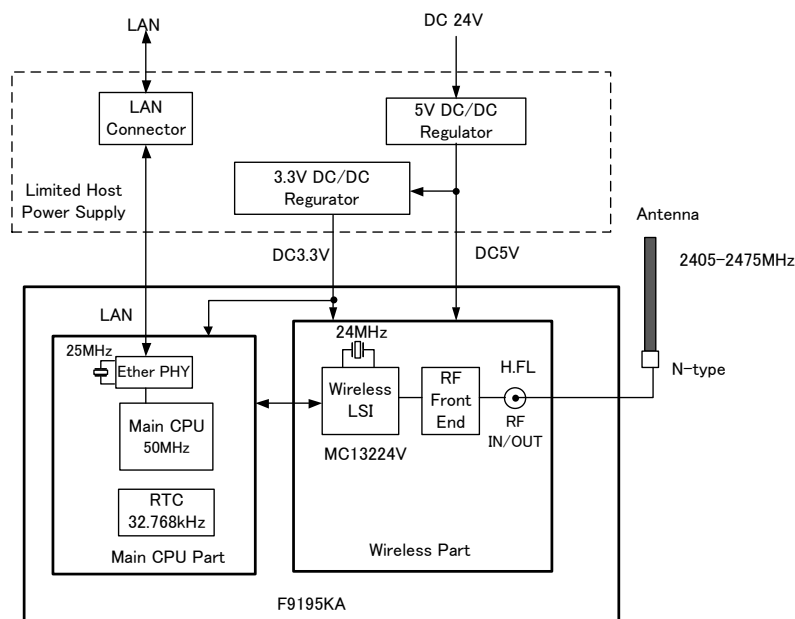

Figure1 System Block Diagram
F9195KA do not have voltage regulator. However, this application limited the host equipment, and F9195KA's voltage is supplied from voltage regulator of the limited host power supply. (Figure1-broken line block)
The limited host power supply contains two regulators, i.e., 5V DC/DC and 3.3V DC/DC (in Figure1)
5.3. Wireless LSI - MC13224V (Figure1)
F9195KA RF Front End circuitry is shown in Figure1. RF Front End contains the RF amplifier, the variable attenuator, the low-pass filter and the RF switches. The MC13224 uses the RF port as a bi-directional single-ended port for both transmit and receive. The RF Switch multiplexes TX port path and RX port path based on the control signal of MC13224.